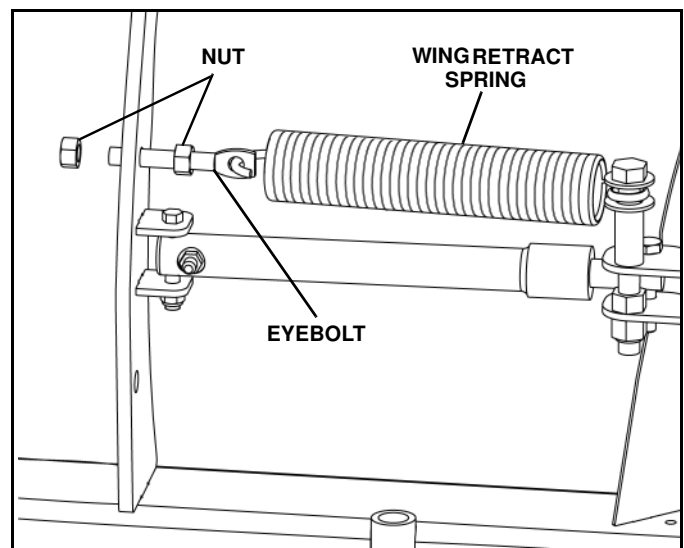

Figure 2-15
6. Install a 5/8" x 4-1/2" eyebolt on the opened side of the spring. Thread a 5/8" nut onto the eyebolt one half way down the threads. Insert the eyebolt into the blade rib and thread a second 5/8" nut onto the eyebolt. Tighten the nut until a 0.015" feeler gauge can pass between two or more coils of the retract spring. DO NOT exceed a maximum clearance of 0.030" between the coils. (See Figure 2-15)